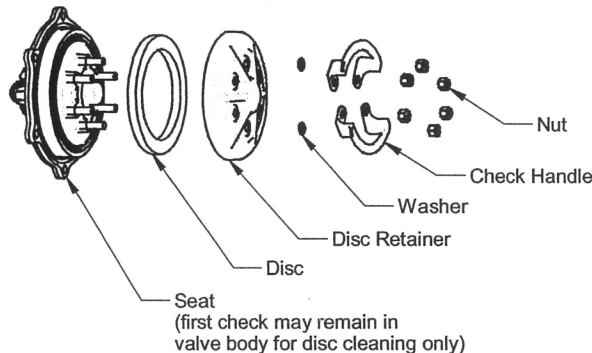

Figure 8
3. Remove the six (6) reusable locknuts for 8" valves / eight (8) nuts for 10" & 12" valves on the check seat with a 3/4" socket and ratchet. *SUGGESTION: Place a rag over the relief valve opening inside the valve body to prevent the locknuts from falling into the relief valve.*
If only cleaning of the first check is necessary, simply remove the six (6) reusable locknuts for 8" valves / eight (8) nuts for 10" & 12" valves on the black plastic disc retainer (See Figure 8). Remove the check handles and washers and lift the disc retainer and disc out of the body. Rinse the disc with clean water or replace if necessary. The disc may be flipped over for a temporary repair, but should be replaced if damaged. Replace the disc, disc retainer, washer, handle, and nuts. Do not over tighten locknuts.